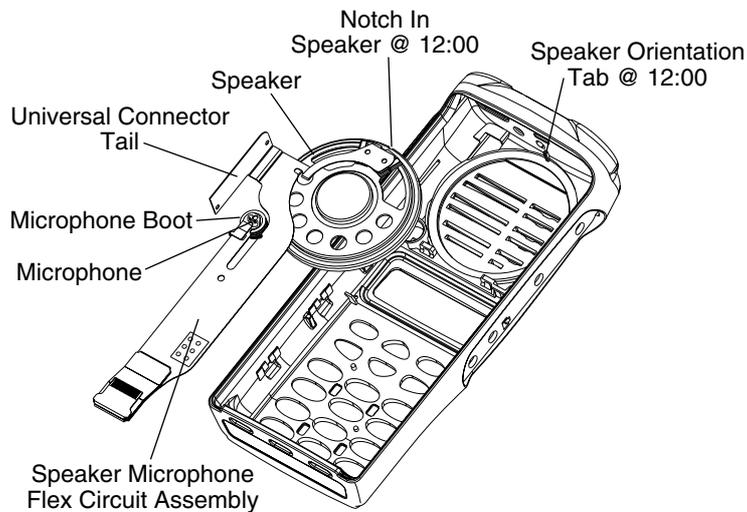

Figure 3-8 Removal Speaker-Microphone Assembly
4. Align the notch in the speaker at the twelve o'clock position with the tab on the front cover. (See Figure 3-8).